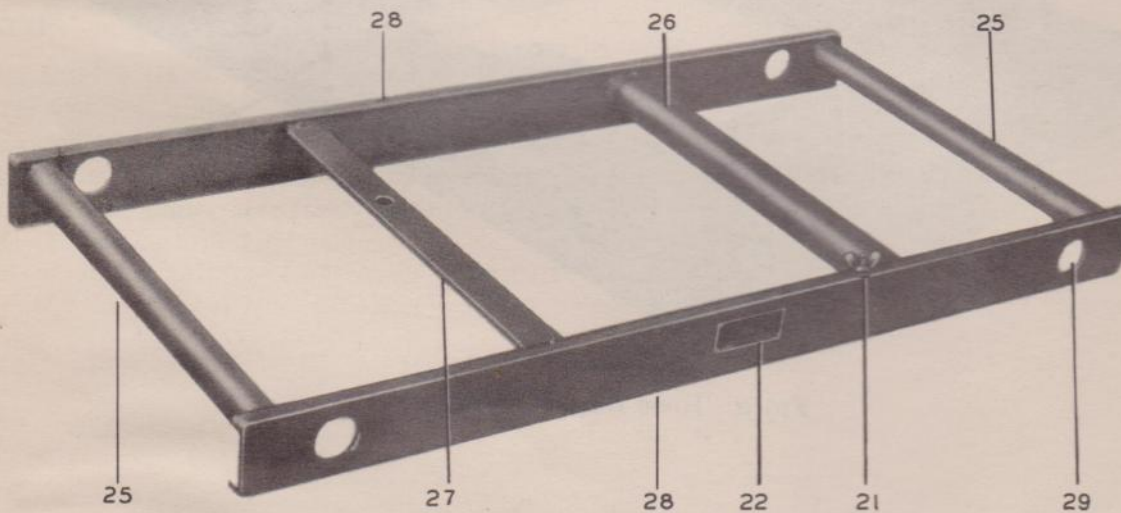

FIG. 4 SKID-BASE
(2) Select the proper open ended wrench from the tool bag in the hood compartment and loosen each of the four nuts until all the "J" bolts swing clear of the carrying handles (25). See Fig. 4.
(3) With one man at each end, lift the Power Unit PE-49-F by the carrying handles (25) only and move to the desired location. The power unit, without the hood and hood base, weighs 228 pounds.
(4) Make sure that the "J" bolt nuts do not fall off and become lost.
*g.* Keep the hood near the final location of the power unit. The hood must always be in place on the skid-base (20) when the power unit is to be transported any distance.